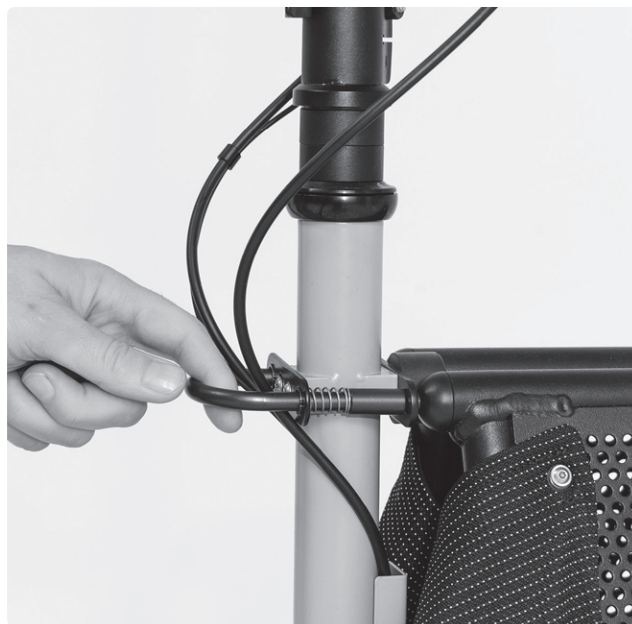

FIG. 54
- To open the basket pull slightly on the locking bar (Fig. 54). The basket opens without any further effort.